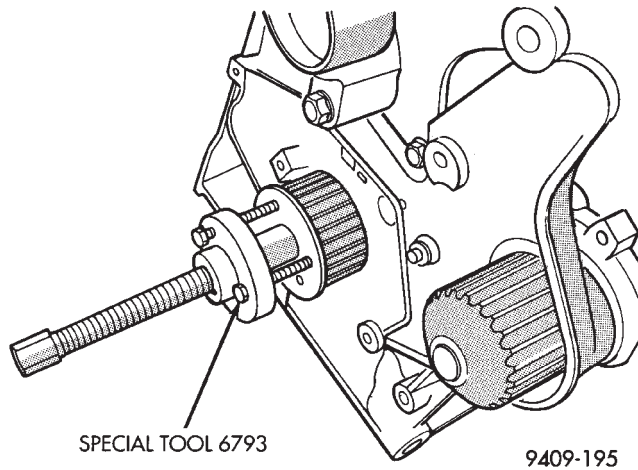

Fig. 86 Crankshaft Sprocket—Removal
(4) Remove Crankshaft Sprocket using Special Tool 6793 and insert C4685-C2 (Fig. 86).